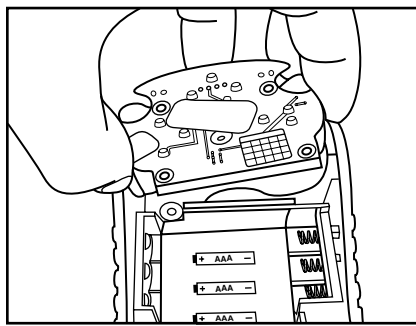

Fig. 37
4. Pull the sensor pack from unit (Fig. 37).